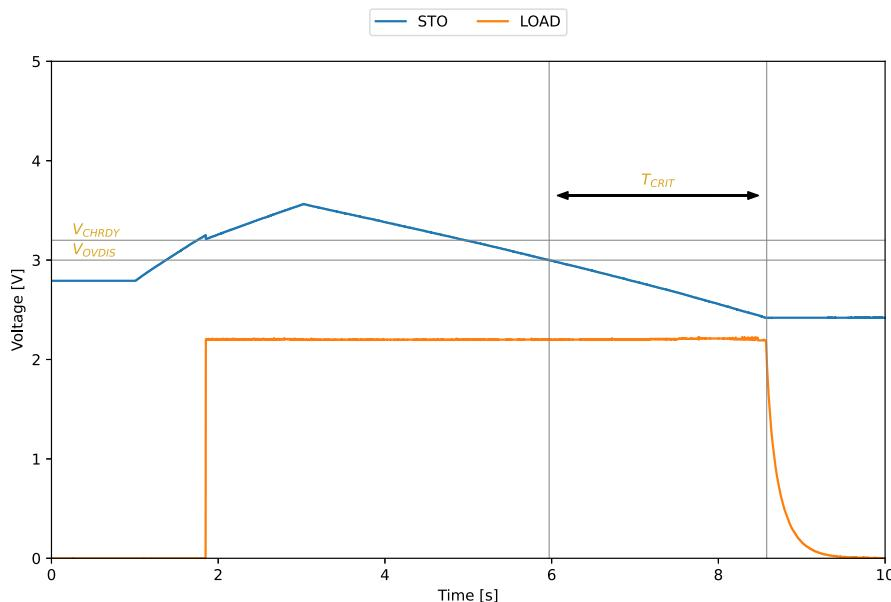

Figure 5: AEM10920 LOAD output behavior
- Disconnect the power supply from **SRC** (done at about 3 s on Figure 5).
NOTE: in a real application, the storage element would be a battery or a supercapacitor, with much higher stored energy, so that V_{STO} would not drop as low as on Figure 5 during T_{CRIT} .